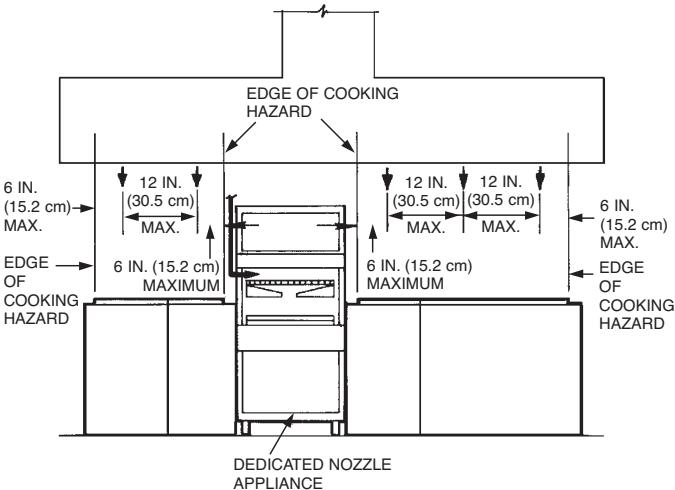

FIGURE 91g
- When an appliance requires dedicated protection with a protected area intended for overlapping appliance nozzle protection, the group protection option will be required for appliances on either side of the appliances using dedicated protection. Group protection using overlapping appliance nozzles must begin with the protected appliance(s) adjacent to the dedicated nozzle protection. An overlapping appliance nozzle(s) must be positioned within 6 in. (15.2 cm) of the edge(s) of the appliance hazard surface area(s) adjacent to the dedicated nozzle protection. See Figure 91g.